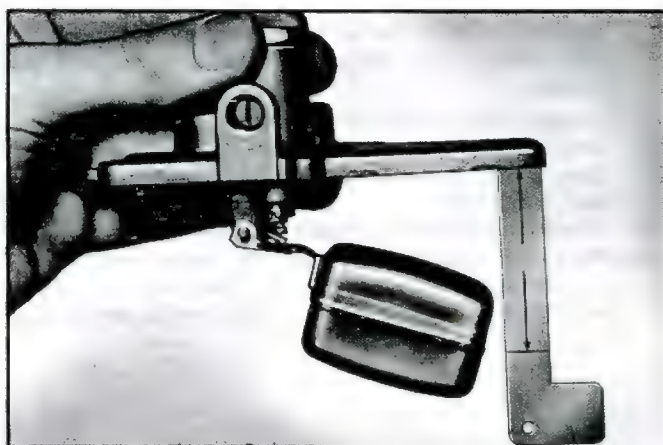

Fig. 32—Measuring Float Drop
- Measure the distance between cover gasket surface and seam of float at free end (fig. 32). This FLOAT DROP dimension should be $2-3/8" \pm 1/16"$.